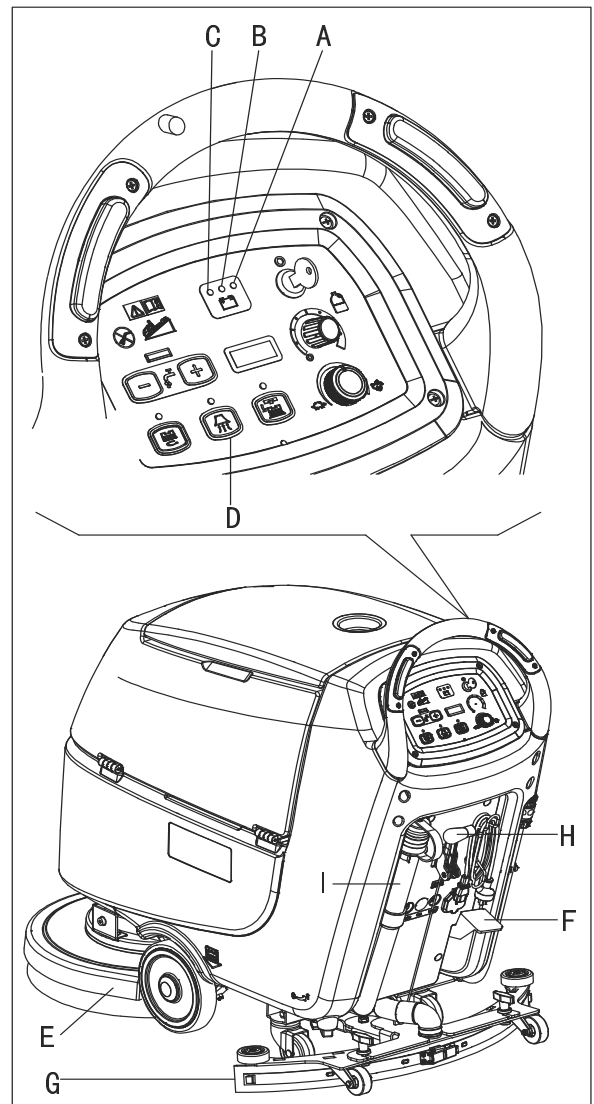
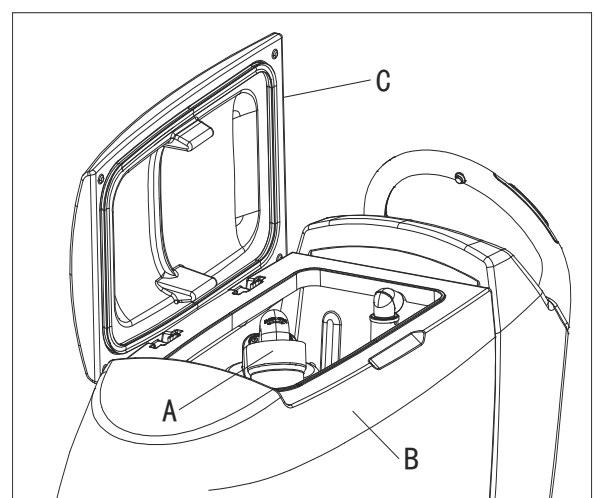

Figure 12
Figure 13
Until the green warning light (A, Figure. 12) stays on, the batteries allow the machine to work normally. When the green warning light (A) turns off, and the yellow warning light (B) turns on, it is advisable to charge the batteries, because the remaining charge will last for a few minutes (depending on battery characteristics and work to be performed). When the red warning light (C) turns on, batteries are fully discharged. After a few seconds, the brush/pad-holder is automatically tuned off, while (only for machine with traction) the drive system stay on, to finish drying the floor and drive the machine to the appointed recharging area.
An automatic float shut-off system (A, Figure. 13) blocks the vacuum system when the recovery water tank (B) is full. The vacuum system deactivation is signaled by a sudden increase in the vacuum system motor noise frequency, also the floor has not dried.
If the vacuum system turns off accidentally (for example, when the float is activated because of a sudden machine movement), to resume the operation: turn off the vacuum system by pressing the switch (D, Figure. 12), then open the cover (C, Figure. 13) and check that the float inside the grid (A) has gone down to the water level. Then close the cover (C) and turn on the vacuum system by pressing the switch (D, Figure. 12).
When the recovery water tank (B, Figure. 13) is full, empty it according to the following procedure.
2. Lift the brush/pad-holder deck (E, Figure.12) by pressing the pedal (F).
3. Lift the squeegee (G) with the lever (H).
5. Empty the recovery water tank with the hose (I). Then, rinse the tank (B, Figure. 13) with clean water.